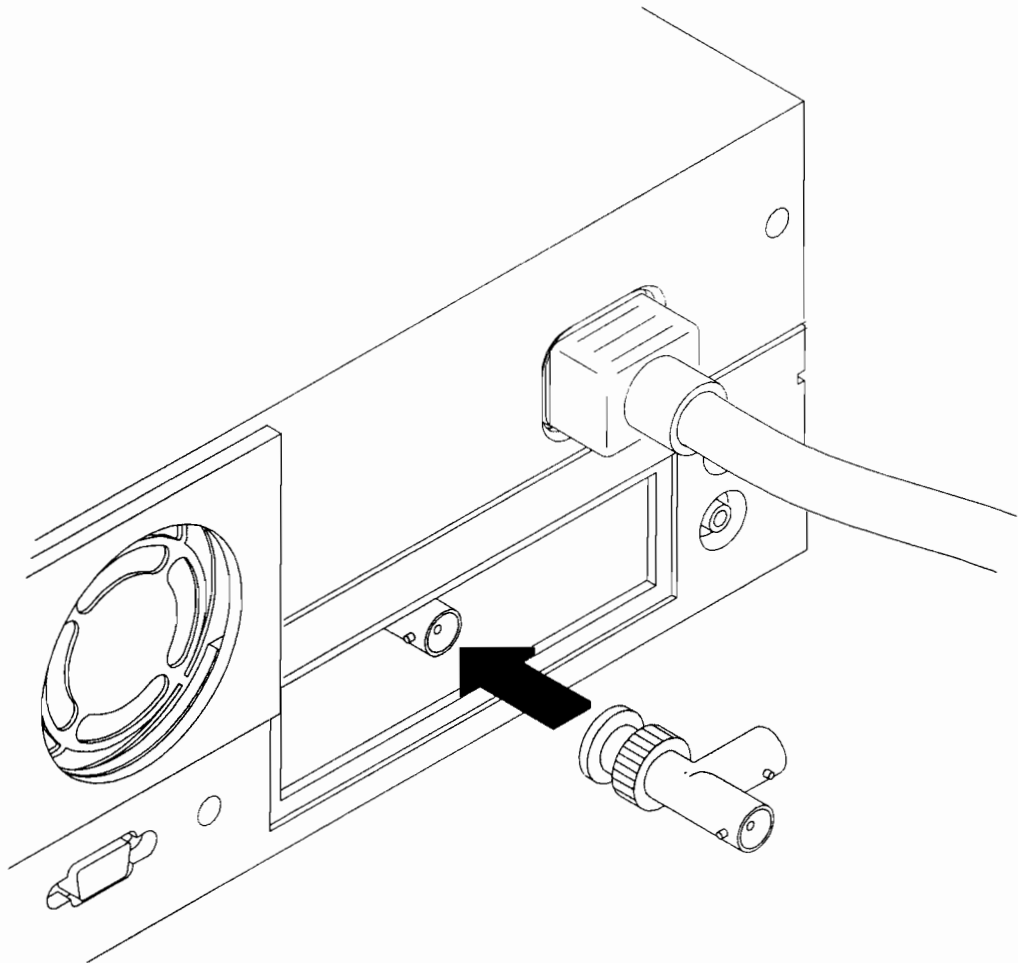

Figure B-18. Connecting to the EISA LAN/9000-802.3 Option Board
- 10.** If you installed the EISA LAN/9000-802.3 option board, use the EISA ThinLAN adapter (1250-2405), which was supplied with the EISA Adapter option, to connect to the board as shown in Figure B-18.